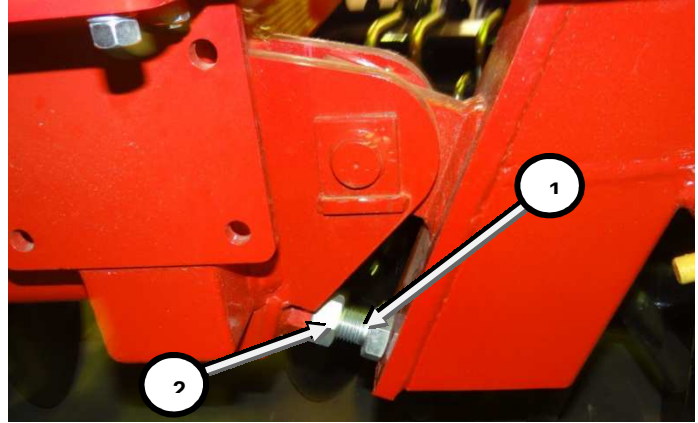

Figure 11
Loosen rear bolt (Item 1, Figure 11) of wing frame depending how much we need to raise the wing for levelling with main frame.
After adjustments are complete, lock the 1-1/4" nut (item 2) as shown in Figure 11.
Screw in the bolt (Item 1, Figure 11) depending on amount, the wing needs to be lowered for levelling.